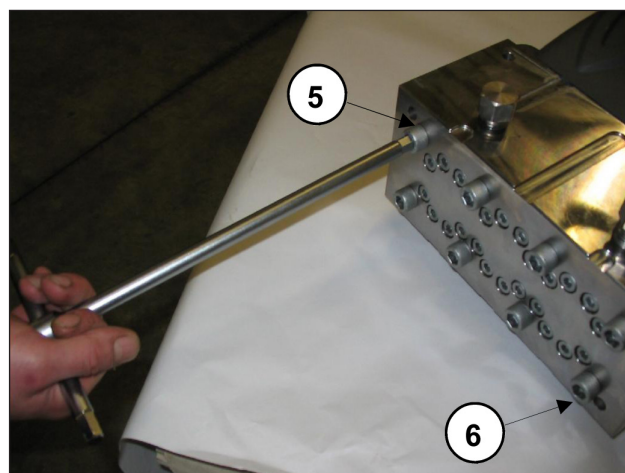
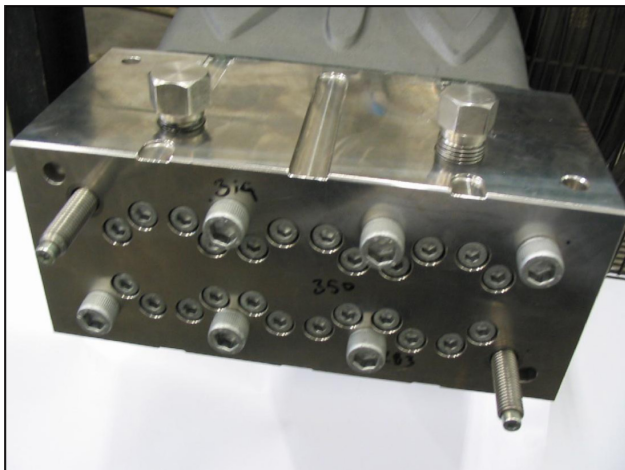

Fig. 17
Fig. 18
- Loosen the head fixing screws M12x260 No. 5 and No. 6 as indicated in Fig. 17 replacing them with service screws-plug (code 27508200) as shown in Fig. 18. Then take out the remaining screws.